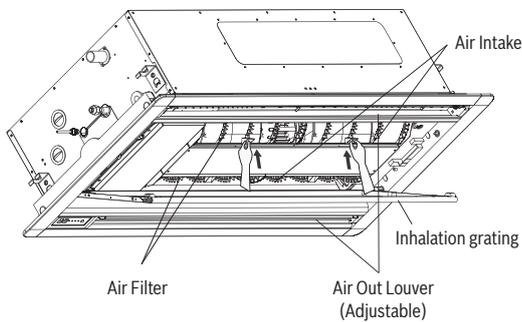

Fig. 5-14
b. The air-in side should face down when cleaning with water. (Refer to Fig. 5-14)